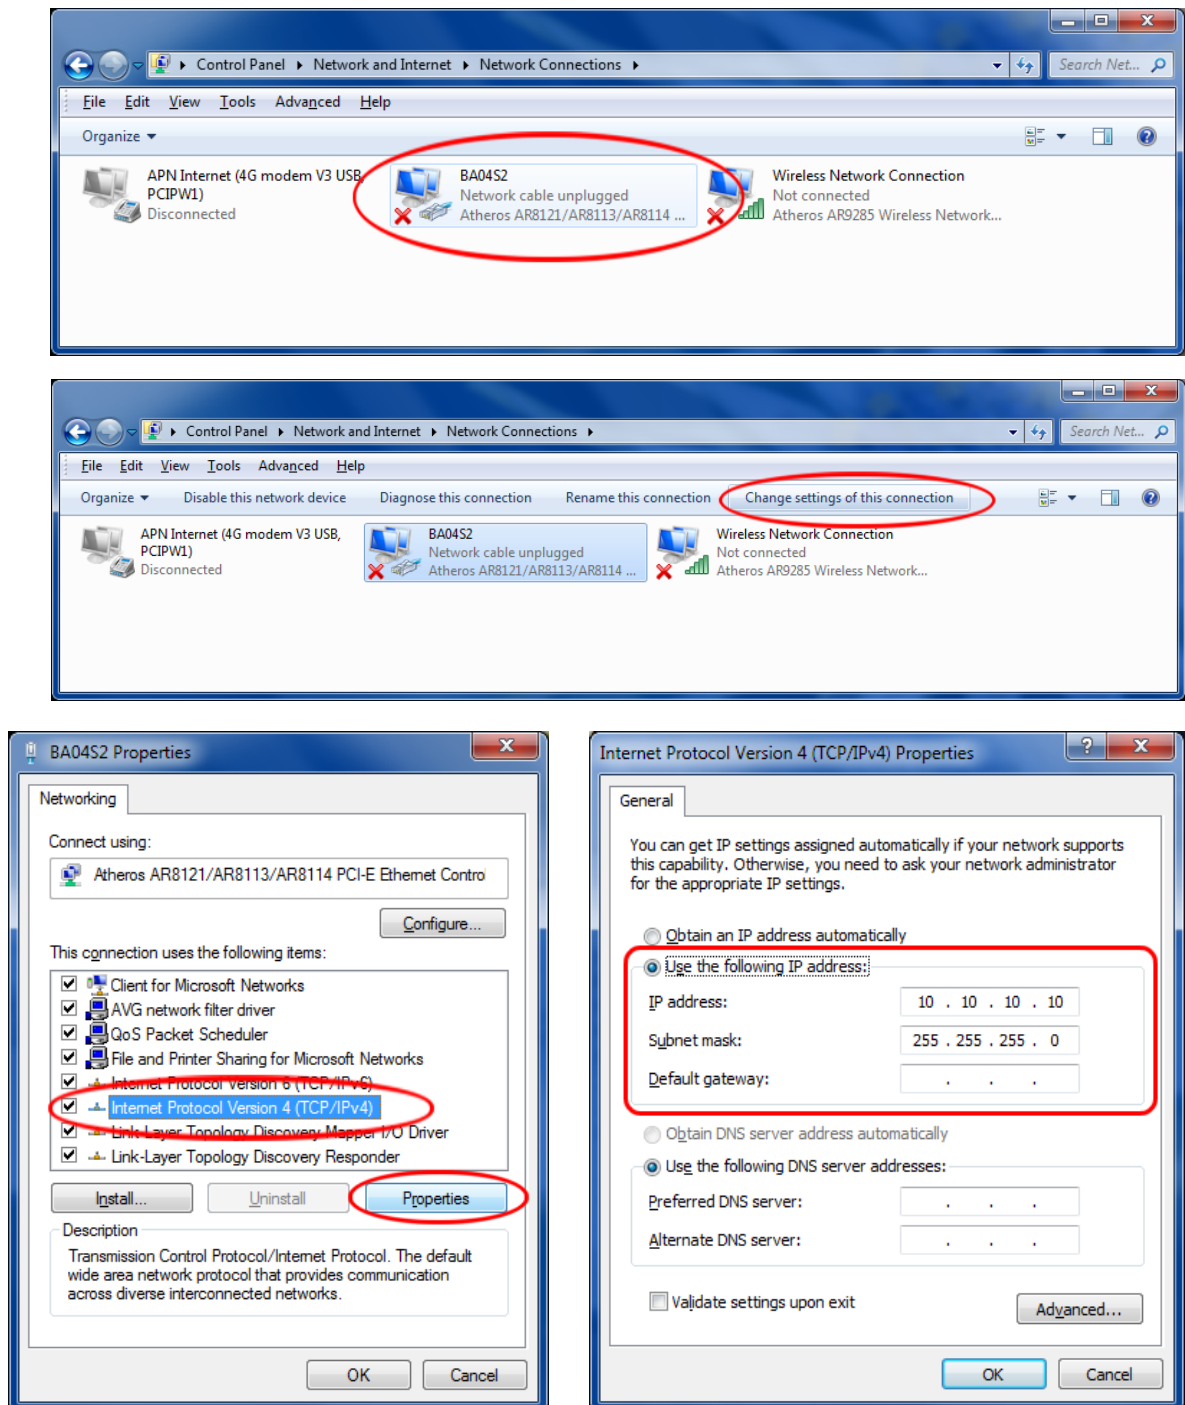
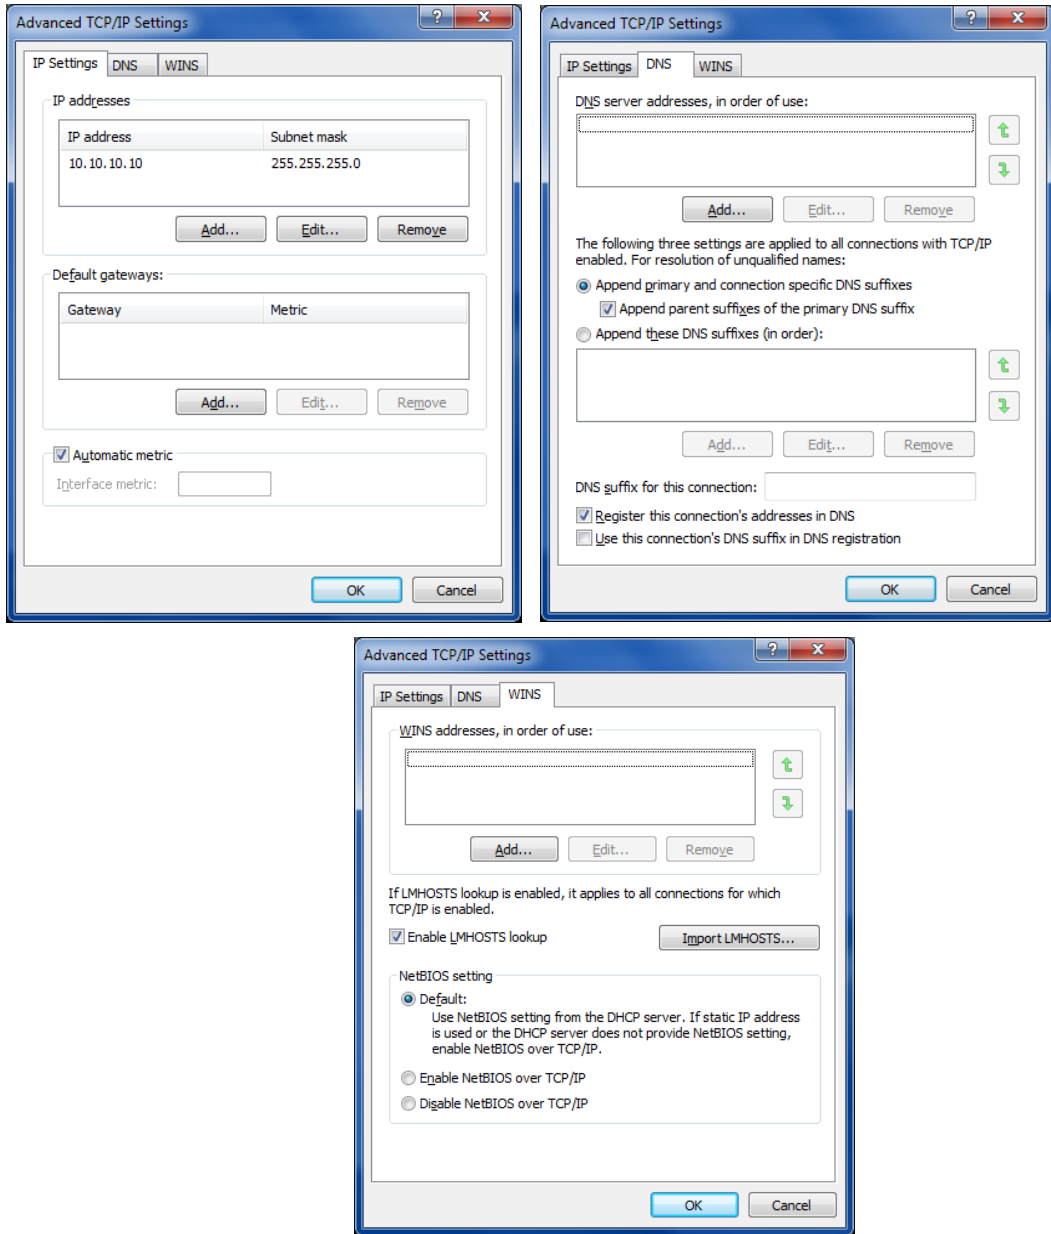

Fig. 3: Network connection
Fig. 4: Network settings
- Now it is necessary to set up TCP/IP network communication protocol, which is very important for correct function of TR 2519 Control software. For Windows 7 environment it is step-by-step described in the pictures Fig. 2 and Fig. 3. In Fig. 4 it is setting of section Advanced (usually let default settings)